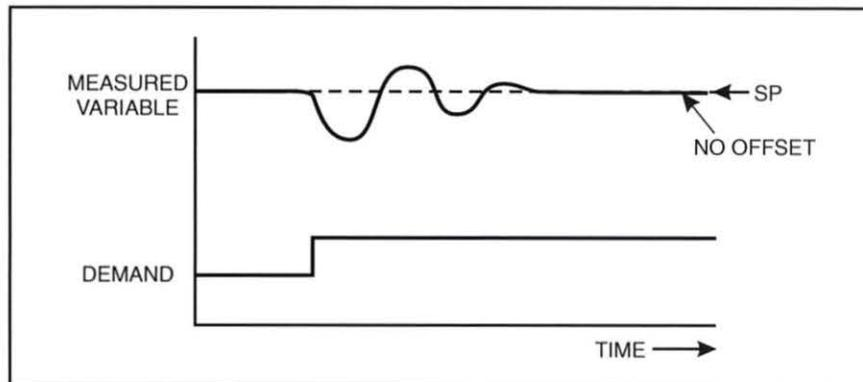

Figure 50. System Response Using PI Control
The control method used most often in flow systems is the proportional plus integral (PI) mode. Flow control systems are subject to frequent load disturbances, so PI control allows these systems to react quickly to these disturbances. Proportional control provides an immediate response to the error and the integral control maintains the flow rate at the SP. Figure 50 shows the response of a system using PI control.